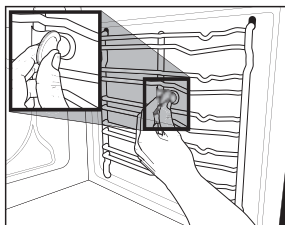

Fig. 2
1. Remove the screws and relative plates on the right and left with the aid of a coin or tool (Fig. 2).